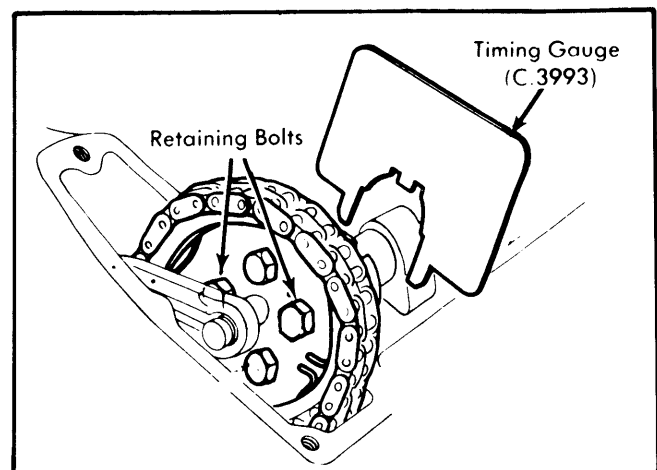
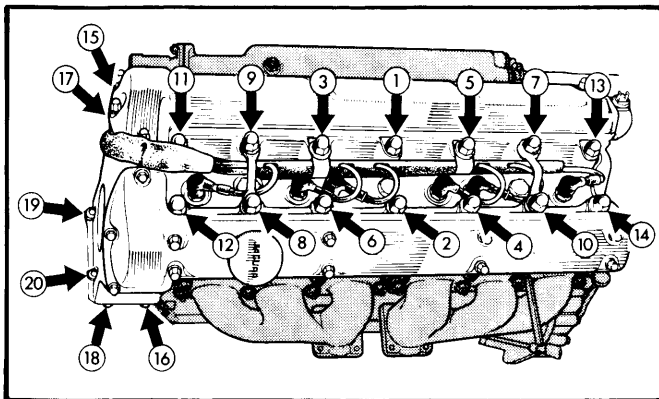

Fig. 1 Retaining Bolts Installed to Hold Camshaft During Cylinder Head Installation
Fig. 2 Jaguar Cylinder Head Tightening Sequence
2) Rotate camshafts until suitable timing gauge (C.3993) can be located in front flange slots (Fig. 1). Lower cylinder head into position, attach spark plug wire brackets and lifting brackets to appropriate head studs, then place washers and 14 large domed nuts on stud. Affix nuts and washers at forward end of head, then tighten all nuts (Fig. 2).